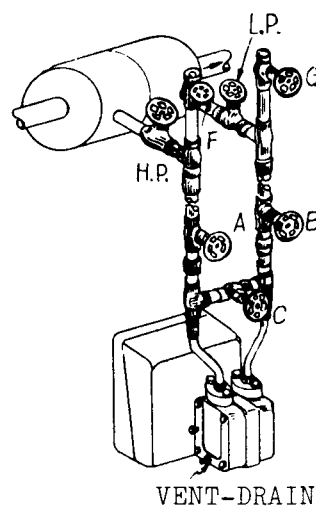

Figure 6. Piping connections for dry gas flow service, using piping manifold.
- (2) Using Piping Manifold (Figure 6)